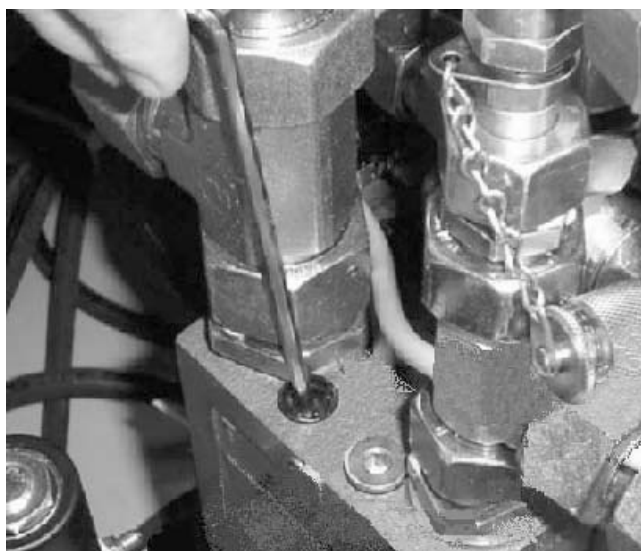

Figure 4-35. Main Valve Pressure Adjustment
- adjust to 210 bar (3045.8 psi) (see Figure 4-35.)